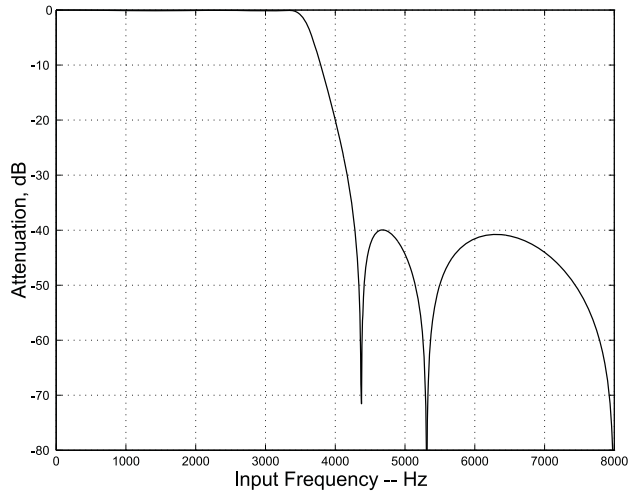
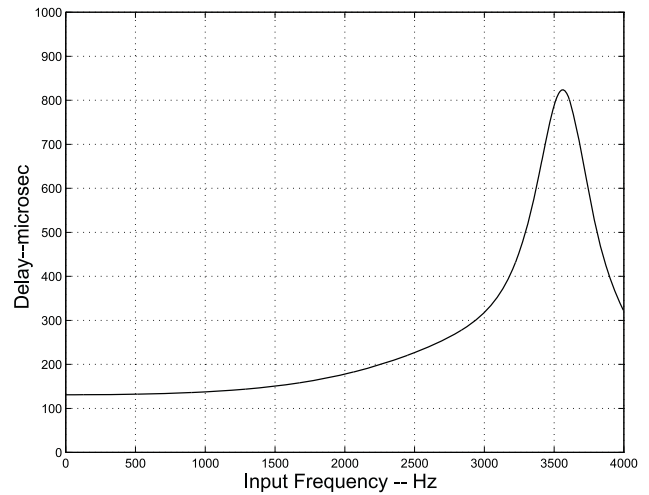

**Figure 11. IIR Receive Filter Response**
**Figure 15. IIR Receive Group Delay**
**Note:** Typical IIR filter characteristics for  $F_s = 8000$  Hz are shown in Figures 11, 12, 13, and 14. Figures 15 and 16 show group delay versus input frequency.
For Figures 11–14, all filter plots apply to a sample rate of